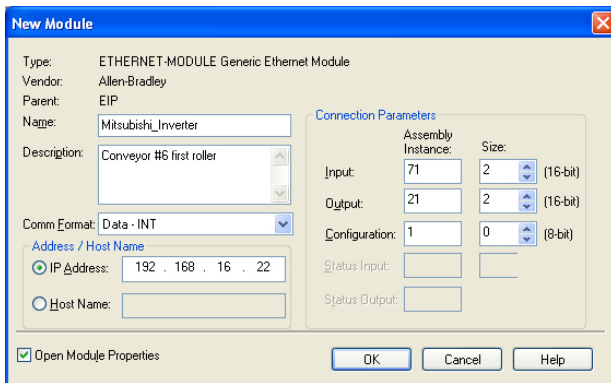

Figure 92: AC/DC Drive Profile Generic Ethernet Module Configuration
- 1) Complete all the steps in section 8.2.4. Please note that the Assembly Input Instance must be changed to 71 and the Assembly Output Instance must be changed to 21. Refer to Figure 92.